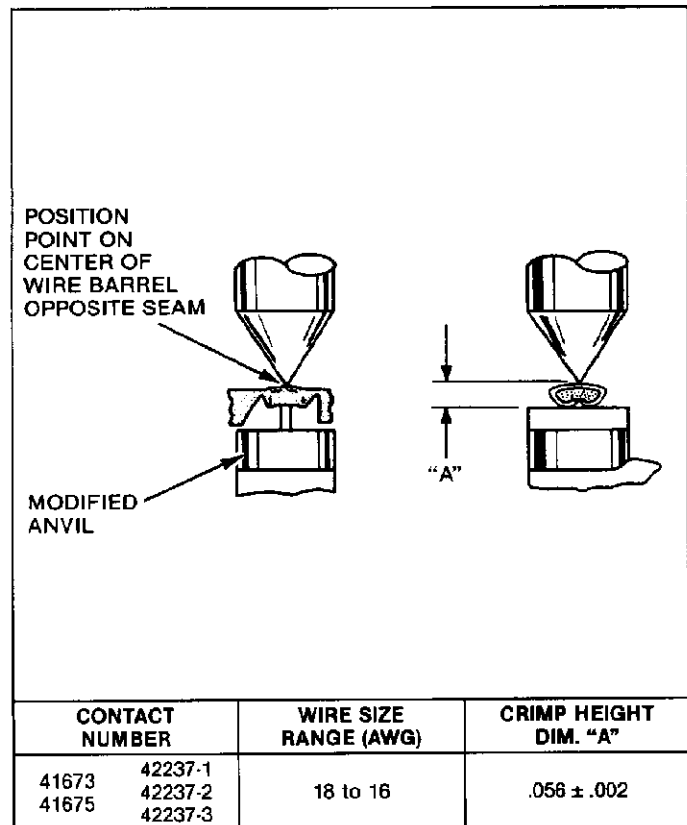

Fig. II-2
This inspection requires the use of a micrometer with a modified anvil as shown in Figure II-2. We recommend the modified micrometer (Crimp Height Comparator RS-1019-5L) which can be purchased from:
3. Using a crimp height comparator, measure wire barrel crimp height as shown in Figure II-2. If the crimp height conforms to that shown in the chart, the tool is considered dimensionally correct. If not, return the tool to AMP for evaluation and repair (see Paragraph II-2, REPAIR).